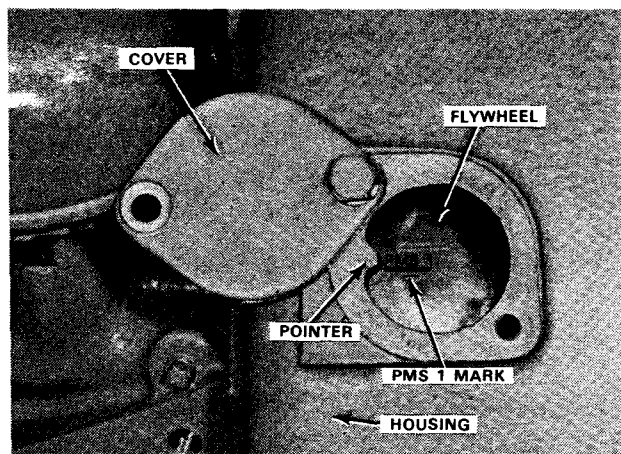

FIG. 9 Flywheel and Housing Timing Marks (SSD-327 and SSD-437)
1. Crank the engine until the number one piston is at top dead center on the compression stroke and the PMS1 mark on the flywheel lines up with the pointer on the flywheel housing (Fig. 9).